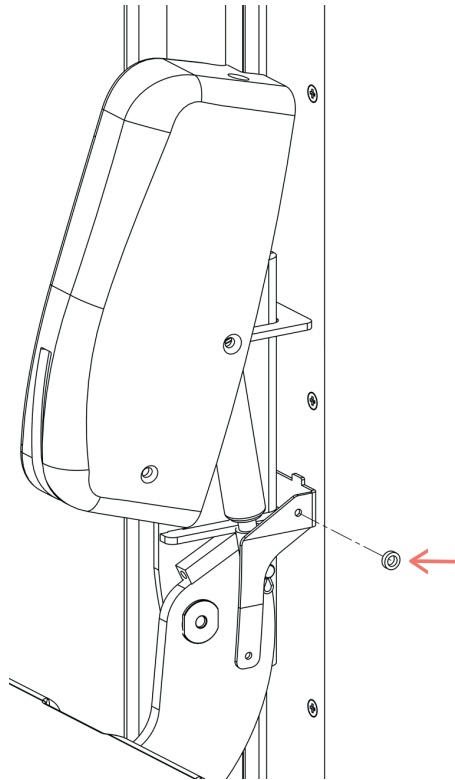

Fig 12.9b
- Ensure the spacer for the middle horizontal screw is fitted between the internal bracket and cover as shown in Fig 12.9b. Please use the longer M5 x 12 mm screw for this fitting.